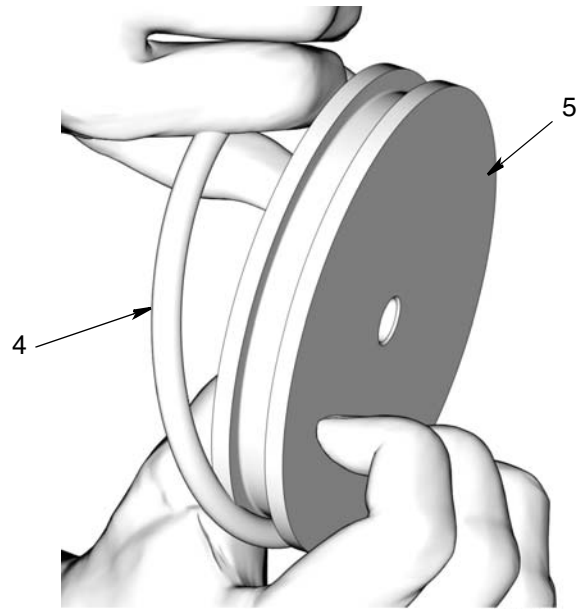

FIG. 23
- Remove o-ring (4) from piston (5) (FIG. 23).